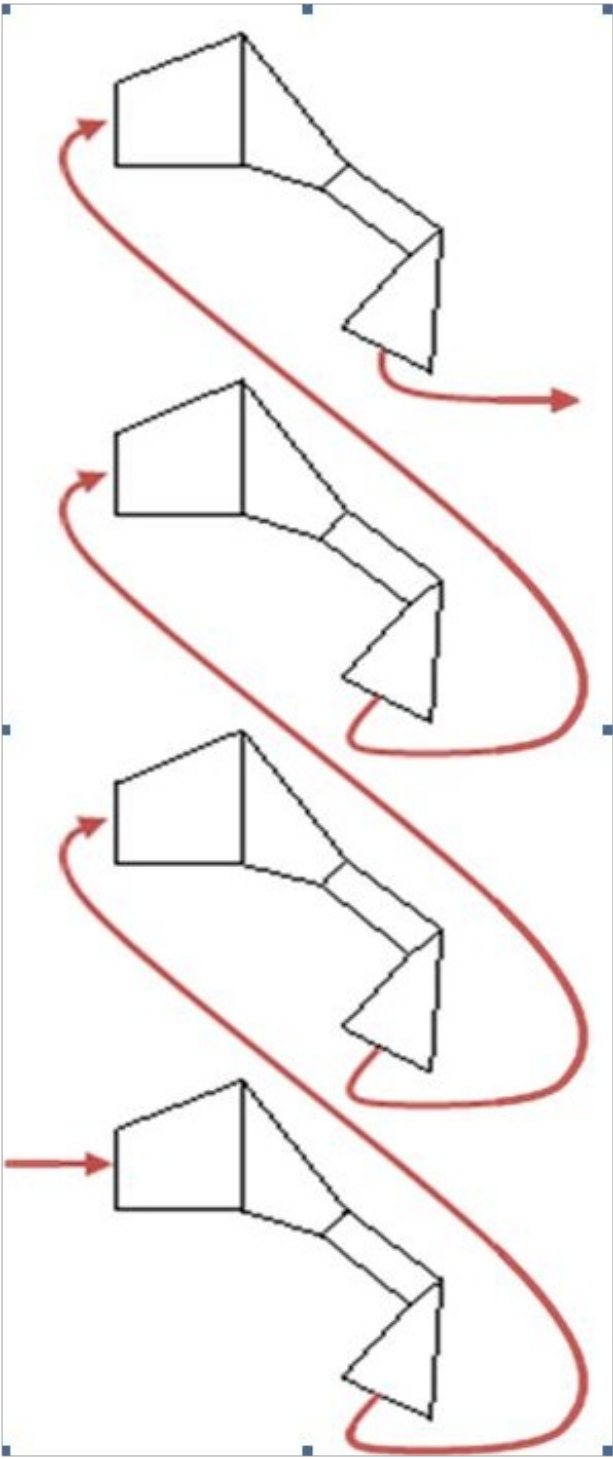

Figure 3
- o A for loop connects the turns in the winding via "PeriodicCondition". - See Figure 3